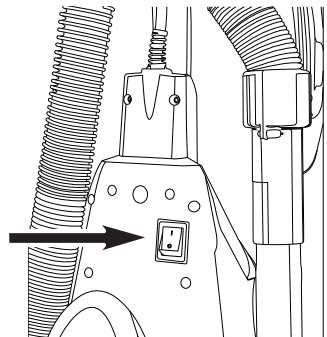

Fig. 3
1. To turn the vacuum on, push the switch located the rear of the unit to the (I) position. (Fig. 3)
2. To turn the vacuum off, push the switch to the (O) position.